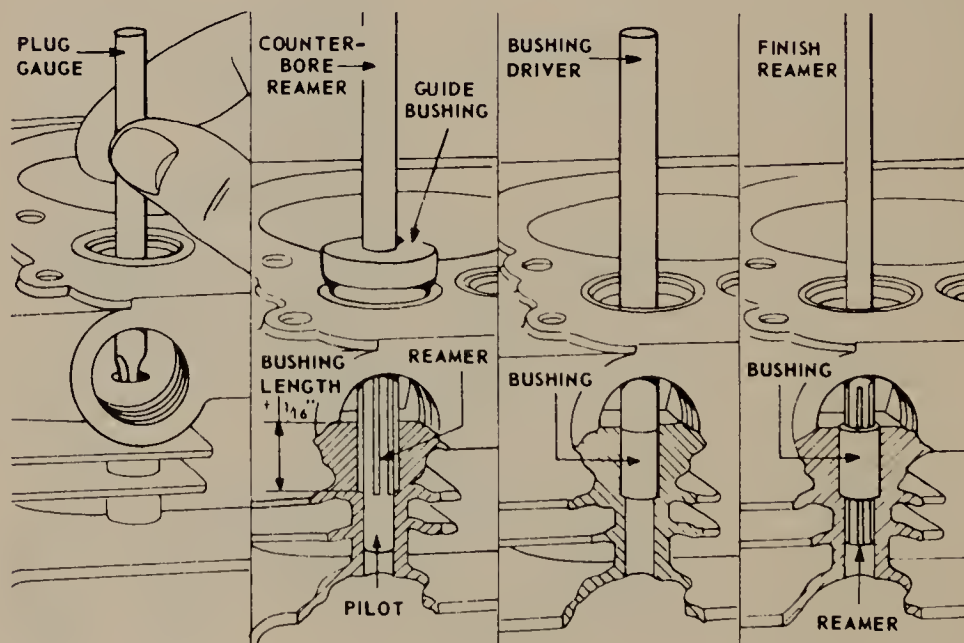

FIGURE 16.66 Checking, installing, and reaming valve guides. (Briggs and Stratton Corporation.)
16.18 Valve Guides. To check for valve-guide wear, use a plug gauge, as shown in Fig. 16.66. If it is worn, it should be rebushed, as shown in Fig. 16.66. First, a bushing guide is used to center the reamer and then the reamer is turned to ream out the worn guide. Ream to